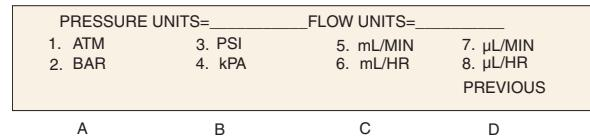

Figure 3-2 Units menu
For your convenience, the controller allows the user to set the displayed units on the pump. See Figure 3-2.
3. The units menu, Figure 3-2, will be displayed.